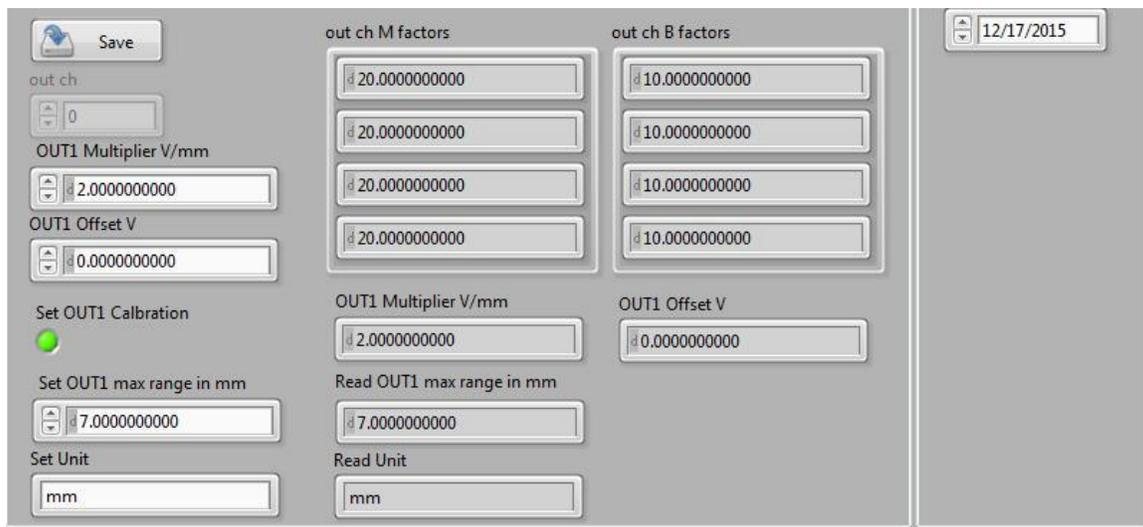

Fig. 3
- To set the Motor calibration values, activate the **Set OUT1 Calibration** LED (Fig. 3). To change the motor calibration values change the **OUT1 Multiplier** value and/or **OUT1 Offset** value, using the corresponding unit. The maximal usable range of the motor can be changed in the field **Set OUT1 max range**, as well as the used unit by **Set Unit**. Press **Save** to store the data in the LabTrax 8/16. The modified calibration values are displayed in the field **OUT1 Multiplier**, **OUT1 Offset**, **Read OUT1 max range** and **Read Unit**. Calibration values are set in V/Unit for the multiplier and Volts for the offset.